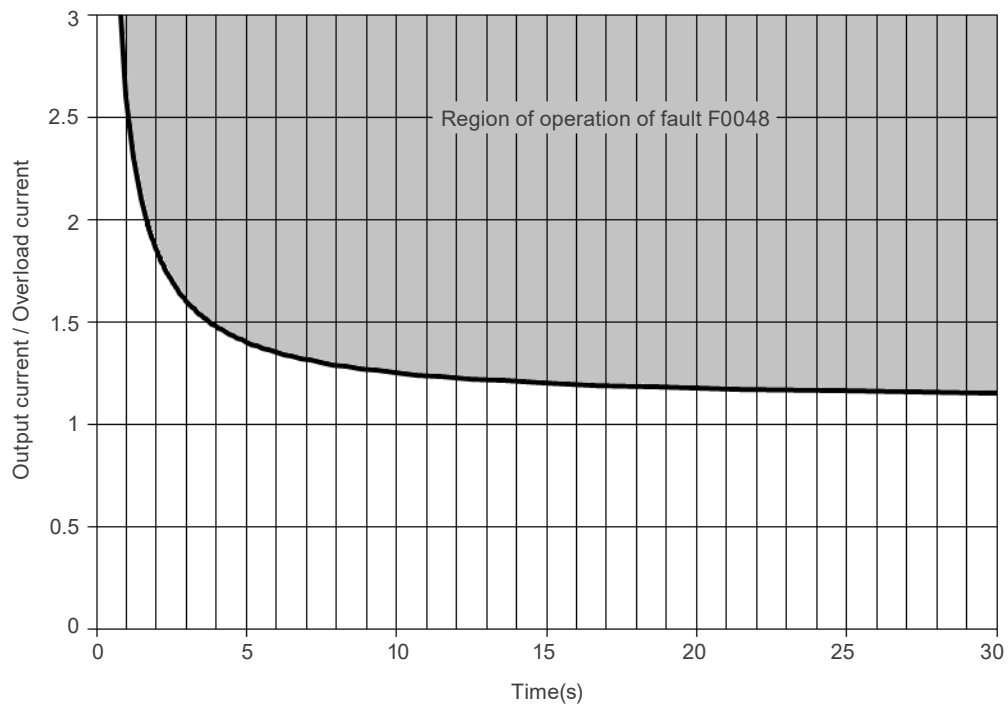

Figure 17.3: Actuation of the overload of the IGBTs (Normal Duty - ND)
In normal duty (ND), fault F0048 occurs around 4 seconds for 150 % of overload, as shown in Figure 17.3 on page 17-5. Likewise, the fault will not occur for current values below 110 % of the inverter rated load.